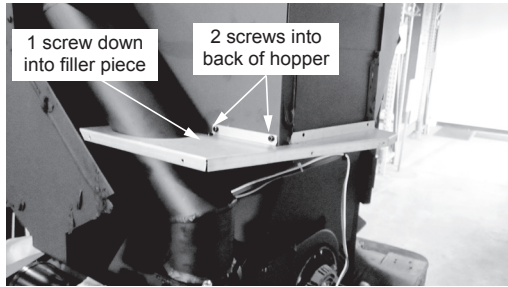

Figure 21.1
4. Install the left shroud panel corner; 2 screws into back of hopper and 1 screw down into the filler piece (**Figure 21.1**).